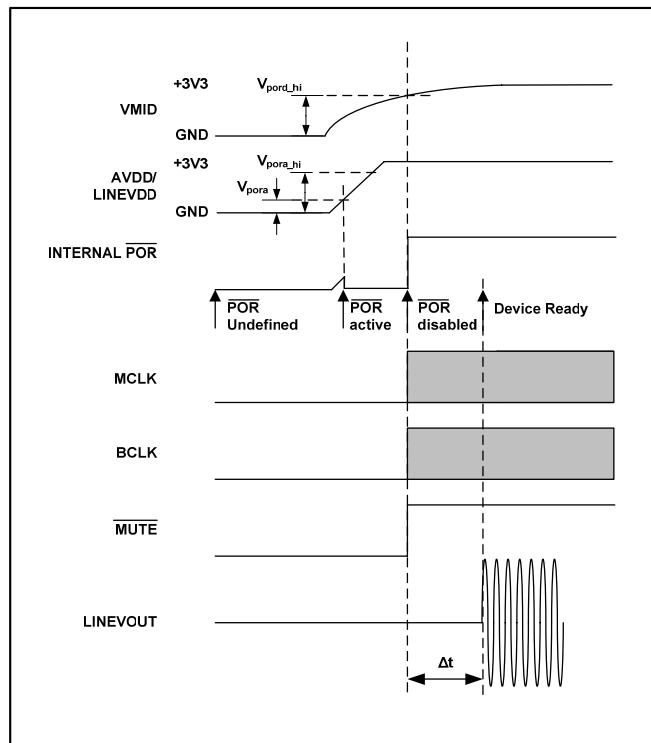

Figure 1 – Recommended Power-up sequence timing
- 3) Start MCLK and BCLK and set MUTE =1. The device will be ready to output audio Δt after a logical AND of MCLK, BCLK, MUTE and POR, as shown in Figure 1.